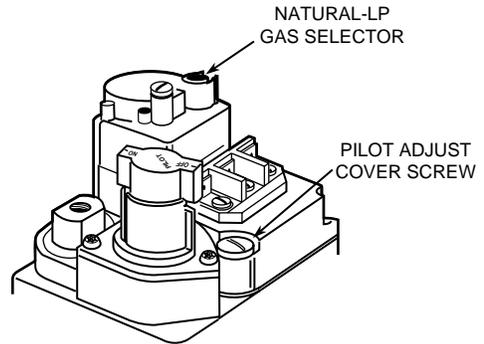

Figure 6. Gas valve top
To adjust the pilot gas pressure, remove the cover screw (see fig. 6). To **REDUCE pilot pressure**, turn the pilot adjust screw (beneath the cover screw) clockwise. To **INCREASE pilot pressure**, turn the pilot adjust screw counterclockwise. Replace and tighten cover screw.
4. Depress gas control knob slightly and turn clockwise to **OFF** (see fig. 6). If knob is in **ON**, turn clockwise to **PILOT**, then depress knob slightly and turn clockwise to **OFF**.